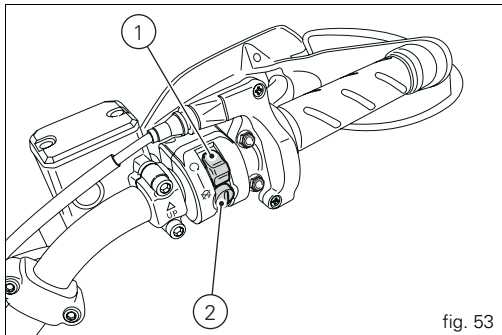

fig. 53
- 2) Make sure that the stop switch (1, fig. 53) is in the  (RUN) position, then press the starter button (2).